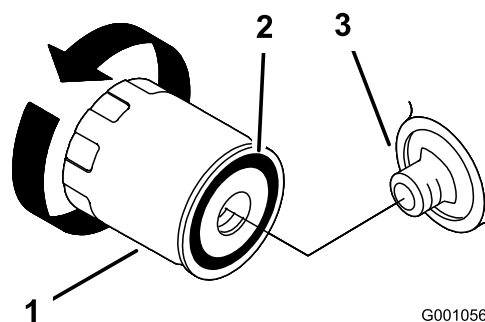

Figure 24
2. Remove the old filter and wipe the filter-gasket surface (Figure 24).
3. Apply a thin coat of new oil to the rubber gasket on the replacement filter (Figure 24).
4. Install the replacement oil filter to the filter adapter, turn the oil filter clockwise until the rubber gasket contacts the filter adapter, then tighten the filter an additional 2/3 to 1 turn (Figure 24).